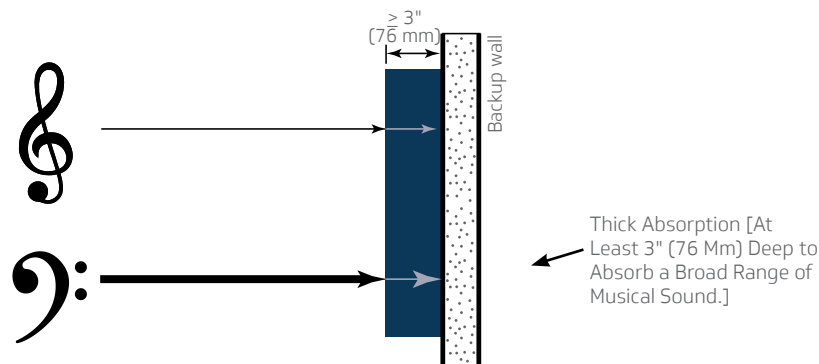

Figure 16
- Sound absorption panels, when properly applied, are another way to quiet a room. To be effective across a broad frequency range they should be at least 3" (76 mm) thick (figure 16). Absorptive panels are also used to treat a number of other acoustic problems and must always be used in conjunction with diffusive surfaces. Consult an acoustician or a company experienced in acoustical panel solutions.